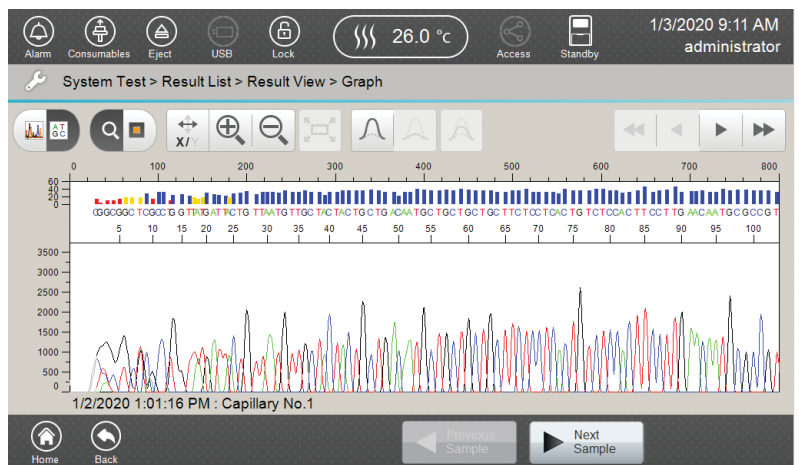

Figure 218. Sequencing System Test 'Graph' screen of selected sample.
- Select **View** in the footer to view the data for that sample in the 'Graph' screen (Figure 218). See 'Results' Tab in Section 5.7, Monitoring a Run, for definitions of the navigation icons on this screen and how to use them.